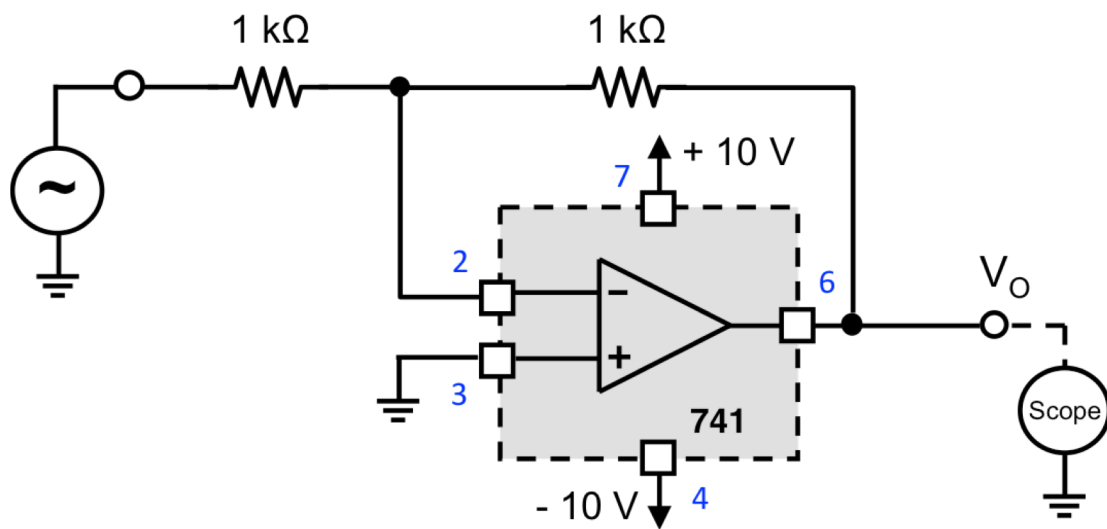

Fig. 6: Inverting Amplifier
(4) **Inverting Amplifier** (Fig. 6): With the input to this amplifier grounded, measure the voltage at the inverting input terminal to the op-amp. This terminal is said to be at a “virtual ground.” Apply the same signal as in part 1, observe the output signal with respect to the input signal in a manner like that performed in part 1. *What is the gain of the circuit? What do you observe at the output of this amplifier if the inverting input terminal to the op-amp is connected to “real” ground? How would you change this circuit to make the magnitude of the gain equal to 10 V/V? The input impedance of a circuit is the ratio of the input voltage to the input current. With a 5 V_{pp} input, compute the current*